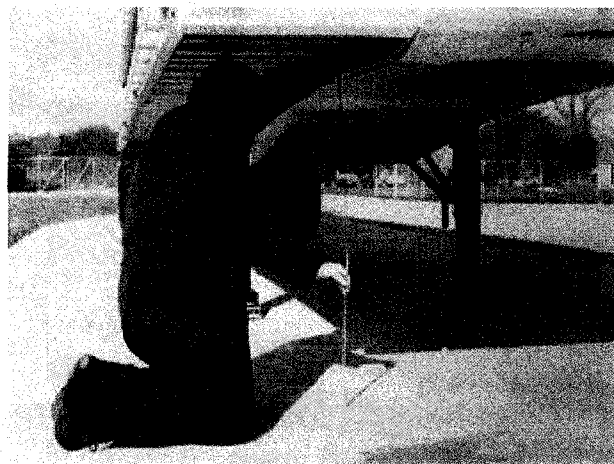

Figure 17: Measuring actual kingpin height
2. Using a tape measure, determine the current trailer kingpin height by measuring from the ground to the kingpin mounting plate (Figure 17).